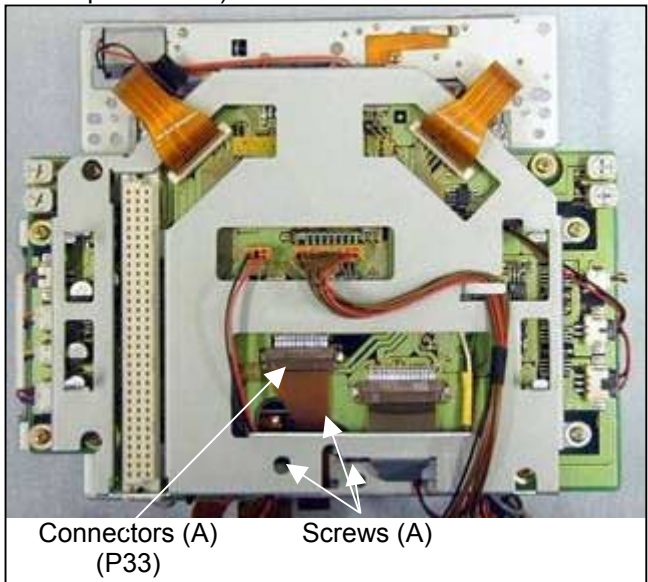

Figure 5-1-1
4. Unscrew the 3 screws which has spring from the Cylinder Unit as shown as Figure 5-1-1, then remove the Cylinder Unit without touching any mechanical parts.